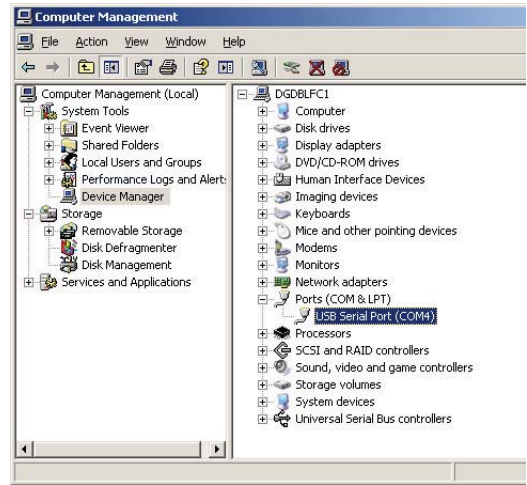

Figure 66: Device Manager screen
2. Double-click *Device Manager*. The *Device Manager* screen will be displayed (*Figure 66*). The port to which the device is connected will be listed under *Ports*. Note the port number.